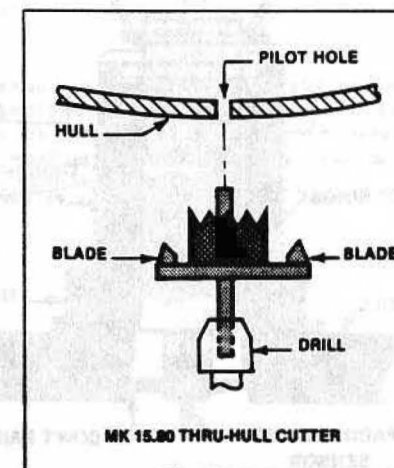

Figure 3
4. a) If a M1580 thru-hull cutter is used, it will cut the 1-5/8" hole and countersink the bore in one step. Drill the hole for the fitting using the 5/16" pilot hole as a center guide (see figure 3).